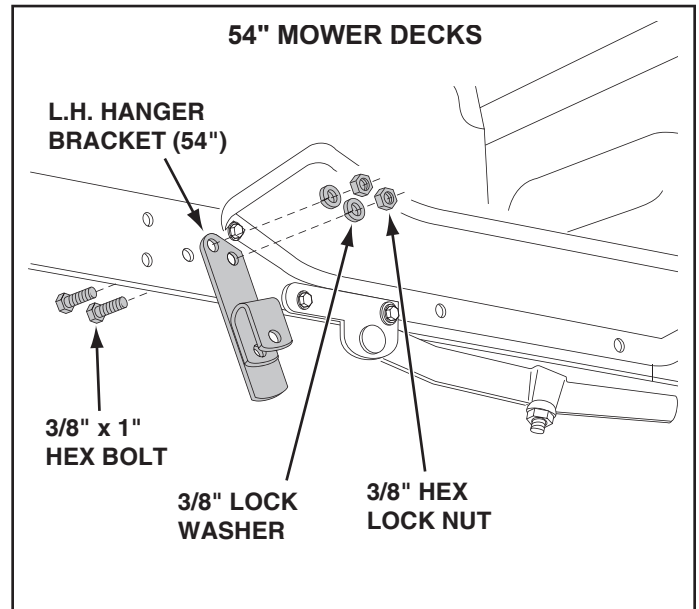

FIGURE 9 **LEFT SIDE VIEW**
- Assemble the 54" L.H. hanger bracket to the holes where the mower stop bracket was removed on the left side of the tractor frame. Fasten with two 3/8" x 1" hex bolts, two 3/8" lock washers and two 3/8" hex lock nuts. See figure 9.